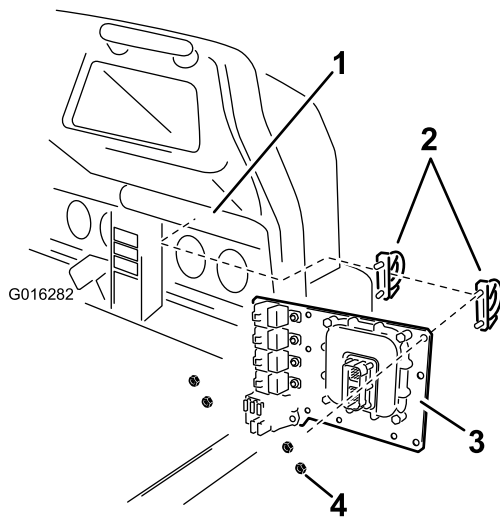

Figure 15
B. For the Workman 200 Spray System: Install the mount plate using 2 U-bolt clamps and 2 nuts (5/16 inch) as shown in Figure 15.